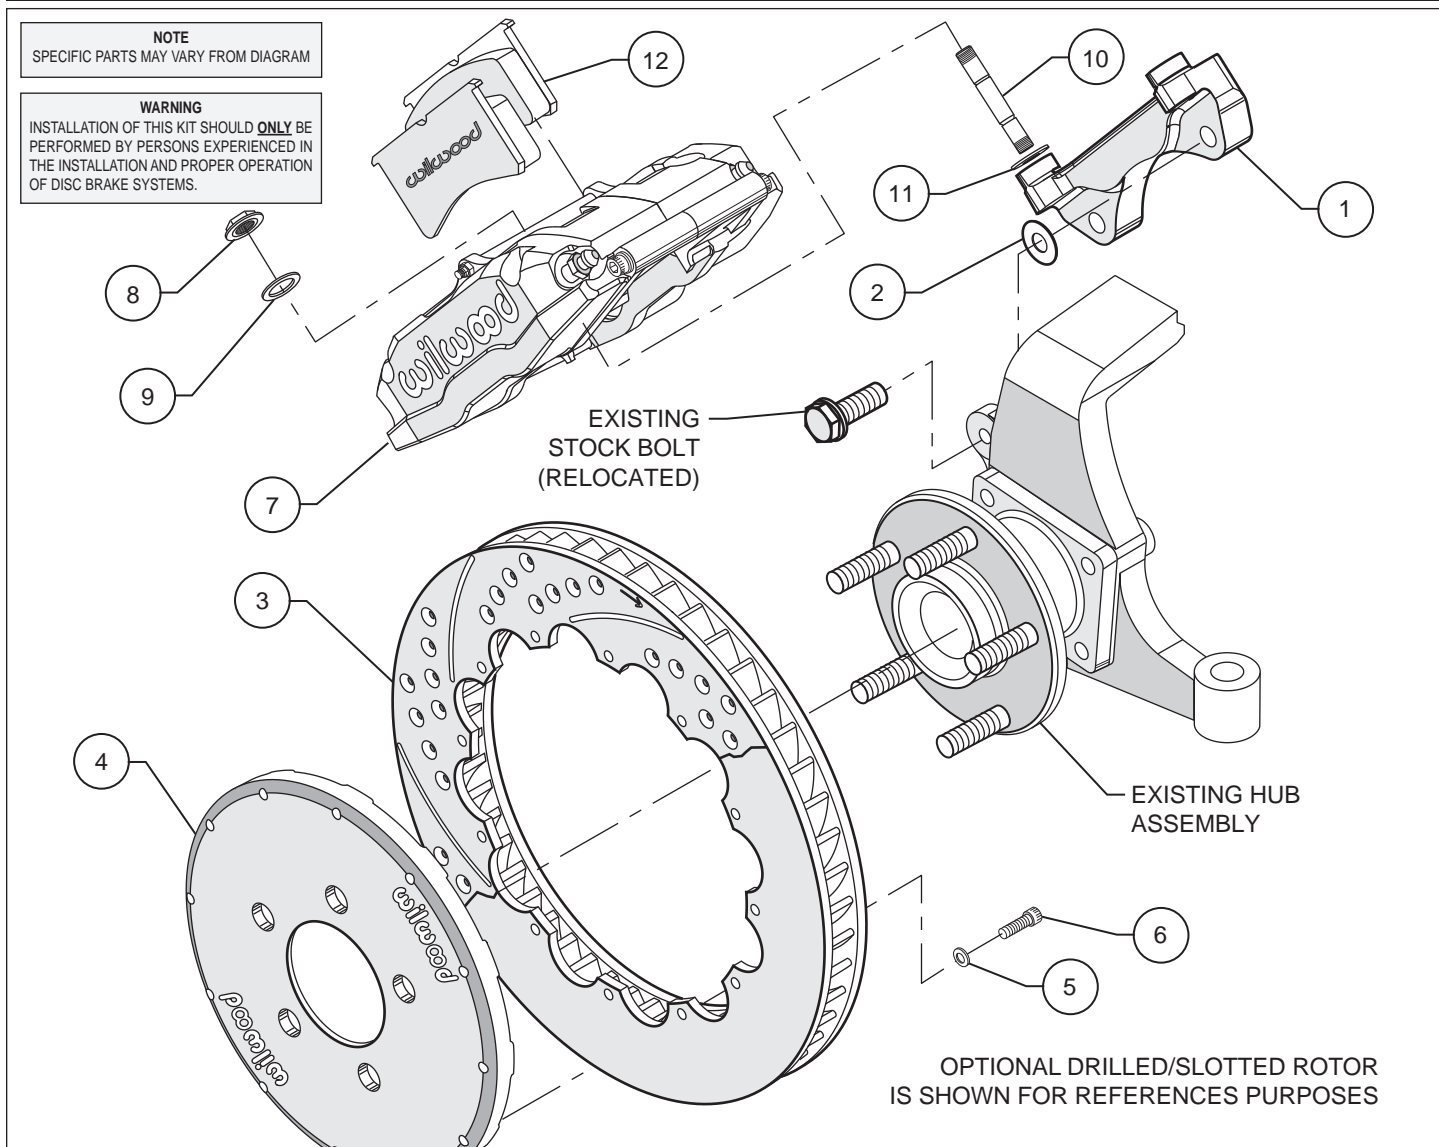
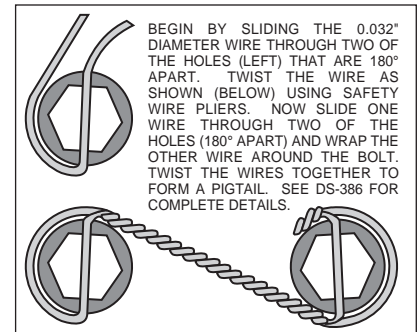

Figure 1. Typical Installation Configuration
Figure 3. Safety Wire Diagram
- The caliper mount bracket assembly (1) should be installed first with clean, dry threads on the mounting bolts. Install the bracket using the original caliper mount bolts. The bolts will now pass through the spindle from the opposite direction that they were removed (see figure 1). The bracket must tighten squarely against the inboard side of the caliper mount bosses on the spindle body. Inspect for interference from casting irregularities, machining ridges, burrs, etc. Use one thin shim (2) between the bracket and spindle during initial trial fitting. Later, after the caliper, pad, and rotor alignment has been checked, and any necessary shims have been put in place, the mount bolts should be coated with red *Loctite*® 271 and torqued to 65 ft-lbs.
- Assemble the rotor (3) to the hat (4) with the bolts (6) and washers (5) provided in the configuration pictured in figure 1. Be sure all bolts thread in smoothly and are snug. Then, torque all bolts in an alternating sequence to 85 **in-lbs**. Safety wire bolts (6) using standard 0.032 inch diameter stainless steel safety wire as shown in Figure 3. Please refer to Wilwood's data sheet DS-386 (available at www.wilwood.com/Pdf/DataSheets/ds386.pdf) for complete safety wire installation instructions.
- NOTE:** Please reference the caution statement at the beginning of the assembly instructions. Install one shim (11) over each stud (10) on the radial mount bracket. Slide the caliper (7) in place over the studs and rotors and install the washer (9) and lock nut (8) to hold the caliper in place. The caliper bleed screws should be pointing up. Snug the lock nuts (8) and check that the rotor (3) is centered in the caliper (7). Add or subtract .035" shims (2) as necessary between the mount bracket and the spindle to center the caliper.
- Remove the caliper center bridge pad retainer bolt, nut, and tube from the caliper. Slide the brake pads (12) into place. They should install easily without interference. Check that the outside radius of the brake pad is aligned with the outside diameter radius of the rotor face. Add or subtract shims (11) between the caliper and mount bracket to gain the proper alignment. Reinstall the center bridge pad retainer tube, bolt, and lock nut. The locknut should be snug without play in the bolt or tube. Be cautious not to over tighten.
- Once all clearances have been checked, remove the wheel, caliper, hat, and rotor from the spindle and hub. Secure the caliper mounting bracket (1) to the spindle using red *Loctite*® 271. Torque the bolts to 65 ft-lbs. Reinstall the hat and rotor assembly and again use several lug nuts to hold it in place. Lubricate caliper mounting studs and nuts with lightweight oil, reinstall the caliper, torque the caliper nuts (8) to 30-35 ft-lbs.
- Install braided flexline kit part number 220-6746 (not included). The 10mm x 1 to -3 (P/N 220-6890) male fitting installs to the stock bulkhead. Then install the straight 1/8-27 to -3 NPT (P/N 220-6956) fitting into the caliper (7). Finally, install the flex line (P/N 220-6411) to the two previously installed fitting. **Carefully route lines to prevent contact with moving suspension, brake or wheel components.** Wilwood hose kits are designed for use in many different vehicle applications and it is the installer's responsibility to properly route and ensure adequate clearance and retention for brake hose components.